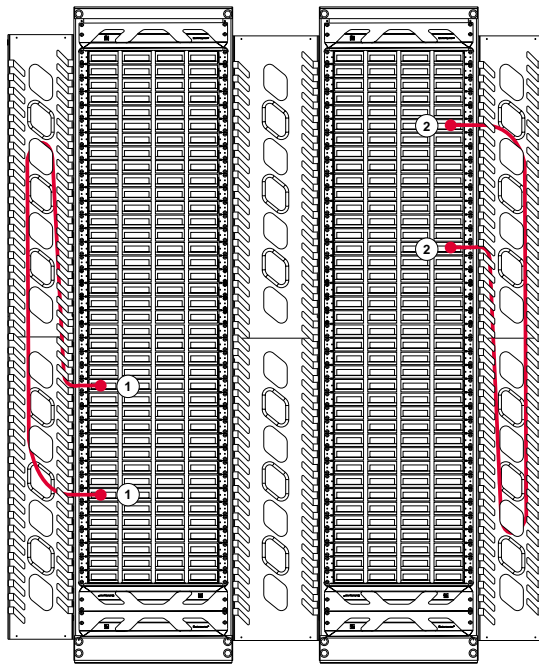

Figure 3. Connect ports to the same side of the same EDF cross-connect bay using vertical cable managers with slack managers for handling extra cable lengths.
- Select a standard patch cord length of less than 10 meters for the EDF and use slack managers in vertical cable managers for routing and storage of extra cable lengths (see Figures 3 and 4). This ensures that the cross-connect is easy to administer while providing protection for patch cords.
- Choose pre-connectorized patch panels with RJ45 interfaces on the front and RJ21x interfaces on the rear. Punchdown connectors (110) are reliable, but take more time to install and are prone to installation errors such as cross wiring that disable ports. Gold-on-gold contacts between modular interfaces on patch panels are pre-assembled cable assemblies ensure reliable and consistent performance.